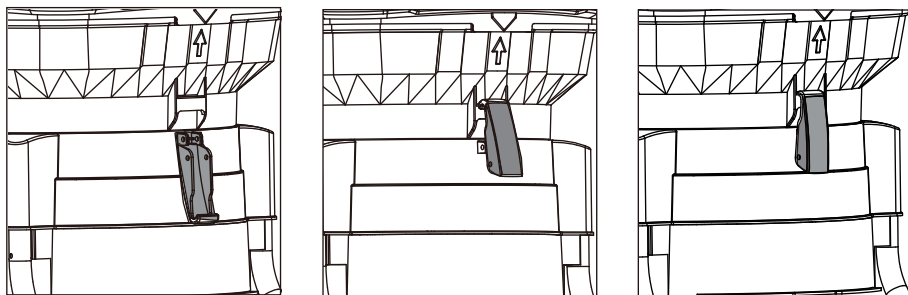

Fig. 7
- Secure the hopper unit with the two latches on either side of the motor housing (Fig. 7).